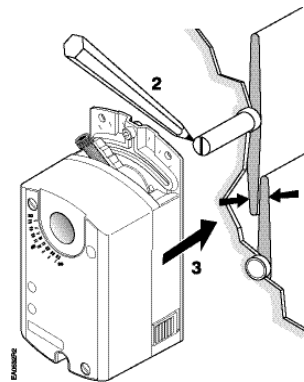

Figure 6. Mounting Actuator to Damper Shaft.
NOTE: The GDE/GLB Enhanced actuator comes with a factory-installed 1/2-inch shaft guide. If the shaft size is 1/2-inch, proceed with Figure 6.
2. Mount actuator to shaft per Figure 6.
3. Proceed to Figure 6.